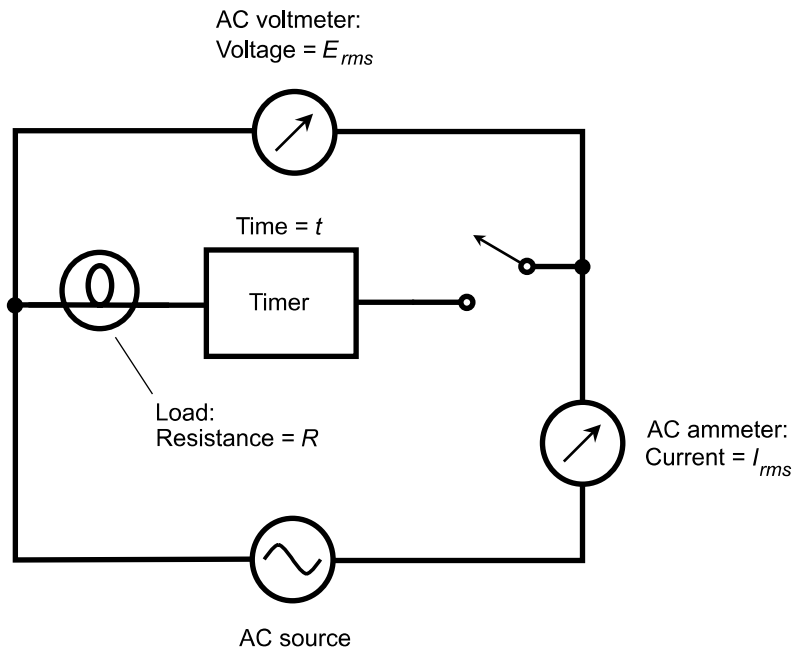

Fig. 7-7. Illustration for Quiz Questions 6 through 9.
6. Examine Fig. 7-7. Suppose the switch is closed. The AC ammeter indicates 3 A rms, while the AC voltmeter indicates 12 V rms. What is the load resistance? Assume that the timer has no resistance.
7. Suppose the switch is closed in the circuit of Fig. 7-7. The AC ammeter indicates  $3\text{ A}_{rms}$ , while the AC voltmeter indicates  $12\text{ V}_{rms}$ . What is the power drawn by the load? Assume the timer has no resistance.
8. Suppose the switch is closed in the circuit of Fig. 7-7. The AC ammeter indicates  $3\text{ A}_{rms}$ , while the AC voltmeter indicates  $12\text{ V}_{rms}$ . What is the energy consumed by the load? Assume the timer has no resistance.
9. Suppose the switch is closed in the circuit of Fig. 7-7. The AC ammeter indicates 3 A rms, while the AC voltmeter indicates 12 V rms. The switch is opened after the timer reading has gone from an initial value of 00:00 (0 h, 0 min) to 01:45. What is the energy consumed by the load? Assume that the timer has no resistance.